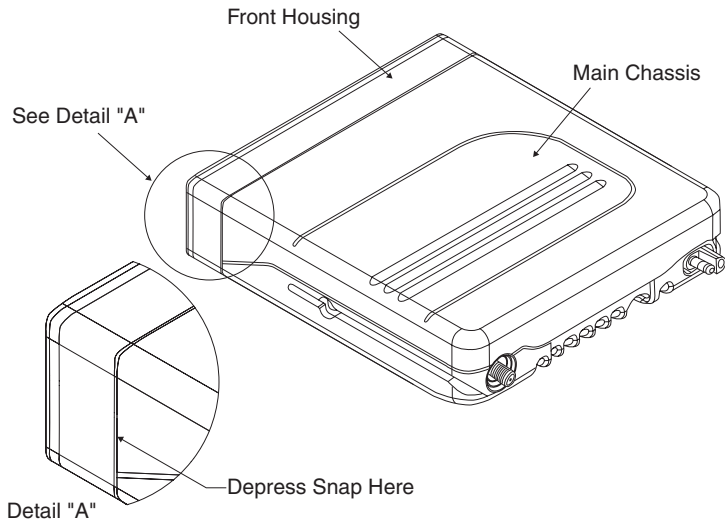

Figure 25. Removing the Front Housing
3. Insert a small flat-blade screwdriver or like instrument in the side groove at the interface between the remote front housing and the main chassis (see Figure 25). Press while pulling the housing away from the chassis until the snap releases. Repeat the operation on the opposite side.